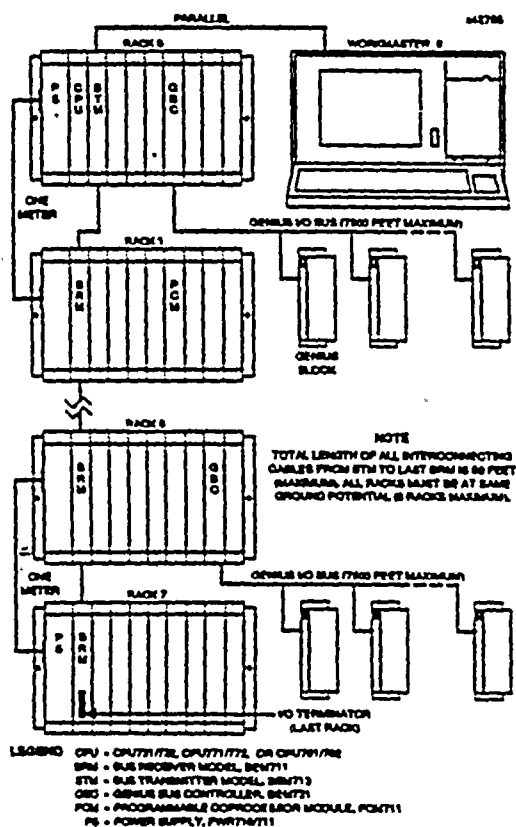

Figure 1. Series 90-70 PLC System Diagram
- Install in slot 1 of rack 0. (See Figure 1)
For a parallel interface the programmer is connected to the top port on the Bus Transmitter Module (IC697BEM713) as shown in Figure 1. Consult Reference 1 for a description of programming functions.